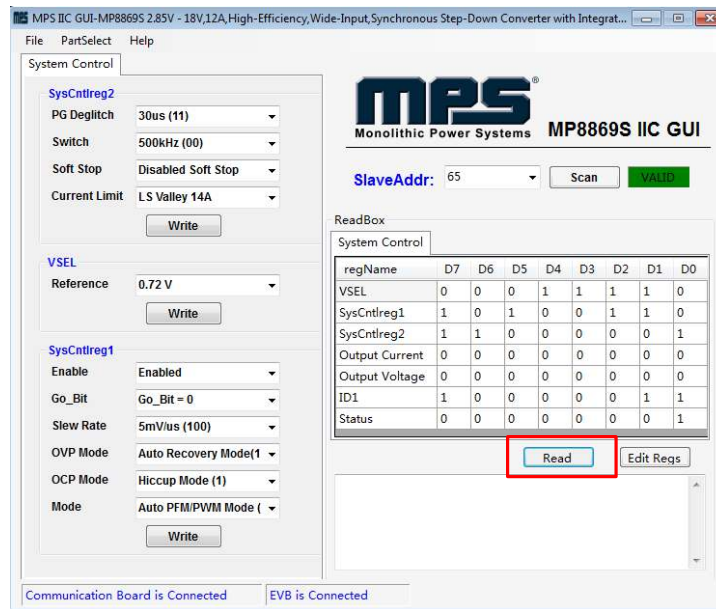

Figure 9: Values from I2C Shown in Table
3. Click the “Part Select” button to select the MP8869S (see Figure 7). The default GUI window is for the MP8861. The Register Control menu will appear on the left side. I2C register values will be read and displayed on the right side after clicking the “Read” button (see Figure 9).